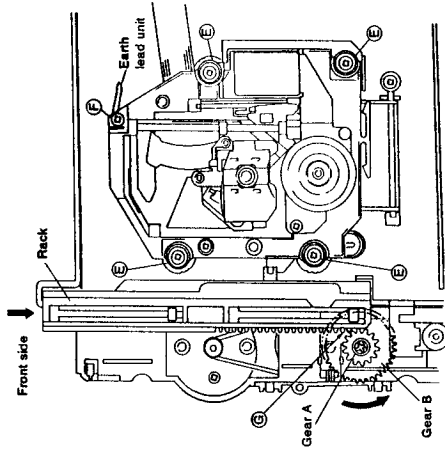

Fig. 2-3
- 2 Remove the four screws ① and one screw ② with the servo mechanism assembly lowered ( to the tray-open position ) ( Fig. 2-3 ).
- 3 To move the rack by hand, gear A and the gear section of the rack must be engaged at section ③ ( see Fig. 2-3 ). Otherwise, the rack may not move. In this case, move gear B with a ④ screwdriver from the side and fit gear B and the gear section of the rack at the engaging section ⑤.